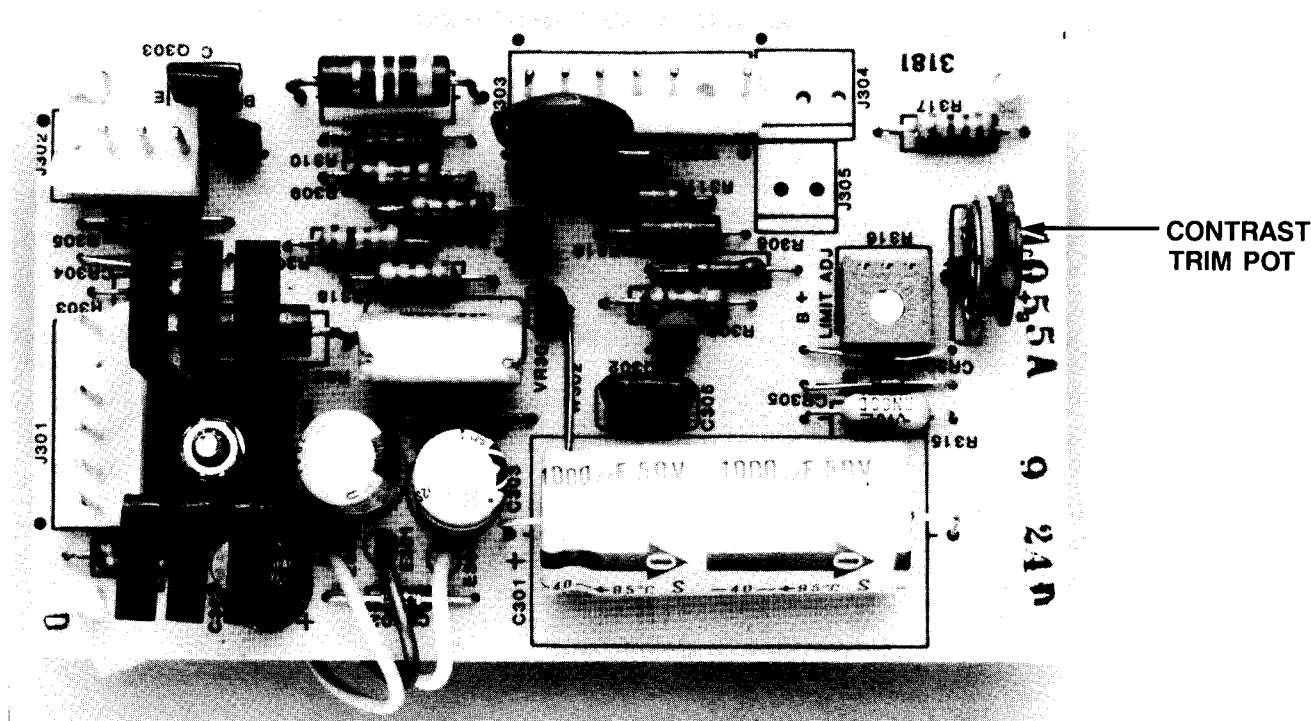

Figure 14. Video PCA
Adjust the trim pot on the Video Board (see Figure 14) until the image begins to smear. Back up the adjustment until the image is clear and stable.
2. Ensure that the proper AC line voltage is applied to the monitor (110 VAC, 120 VAC, 220 VAC, or 240 VAC). By loosening the left screw, the CORCOM can be adjusted to match the line voltage used in your area. (See Figure 14.) Ensure that the fuse link is good by checking for continuity.